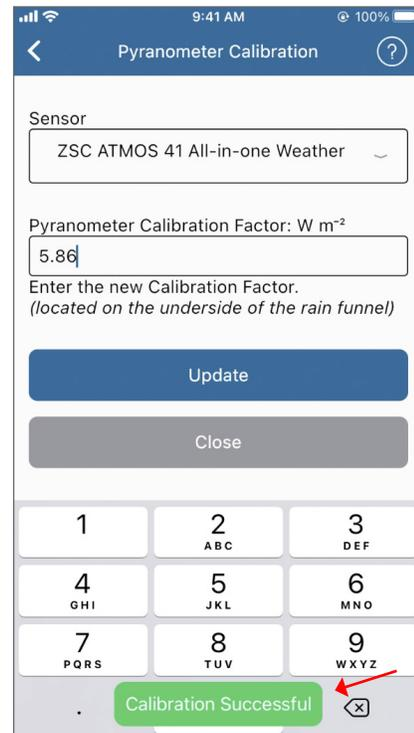

Figure 17 Verify CAL Factor value
13. Verify the Pyranometer Calibration screen returns the following message (Figure 17):